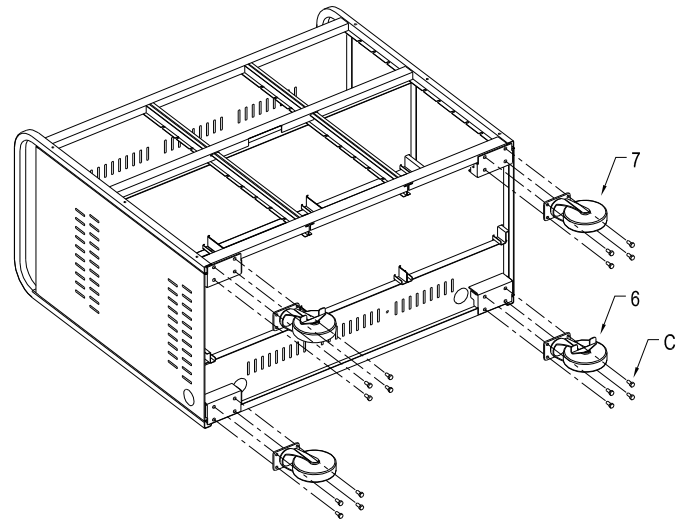

Figure 1
- Lay cart onto rear panel. See Figure 1. Install Plate Casters. For maximum braking capacity, the two brake casters should be installed diagonally across from each other. Tighten all fasteners.